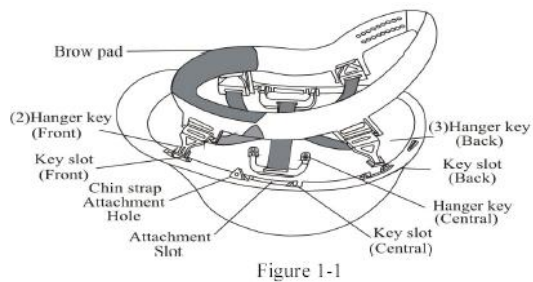

Figure 1-1
- Install the suspension to the helmet by inserting the four or six suspension hanger keys to the four or six key slots of the helmet. (Figure 1-1,1-2) (The brow pad is located at the front of the helmet).